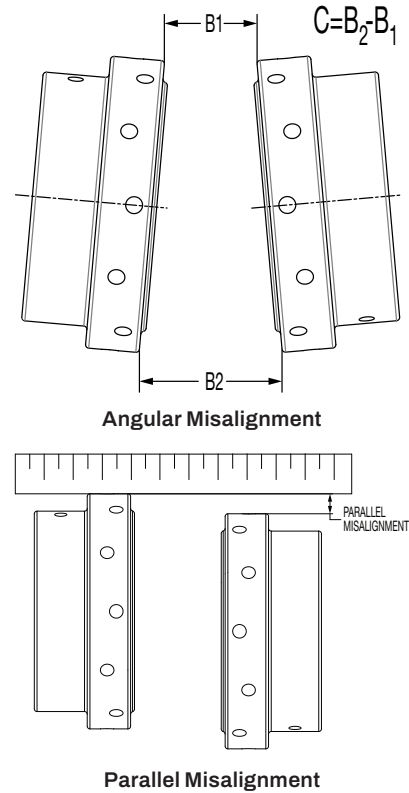

Figure 1 - Misalignment
3. Use a half element to set proper hub spacing (with or without spacer extensions), or reference Table 1 to set appropriate shaft spacing. Depending upon shaft spacing requirements, hubs may be oriented as seen in Figure 1 where C is the dimension between hub faces.
1. Using scales or calipers, check the angular misalignment by measuring dimension "B" at four places on the outer diameter of the hub 90° apart, as seen in Figure 1. Use the "B2" and "B1" measurements to calculate "C". Adjust the equipment until the "C" measurements do not exceed the value in Table 3.
2. Check parallel misalignment by placing a straight edge across the outside diameter of the hubs and measuring the gap between the straight edge and the hub at four locations 90° apart, as seen in Figure 1. Adjust equipment until the gap does not exceed the value shown in Table 3.